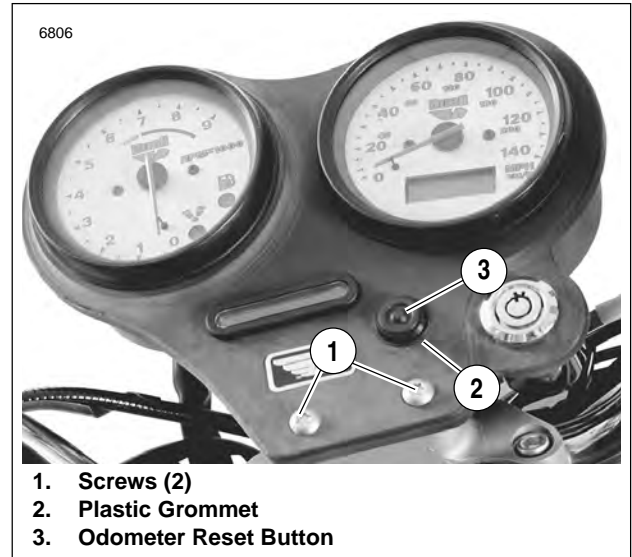
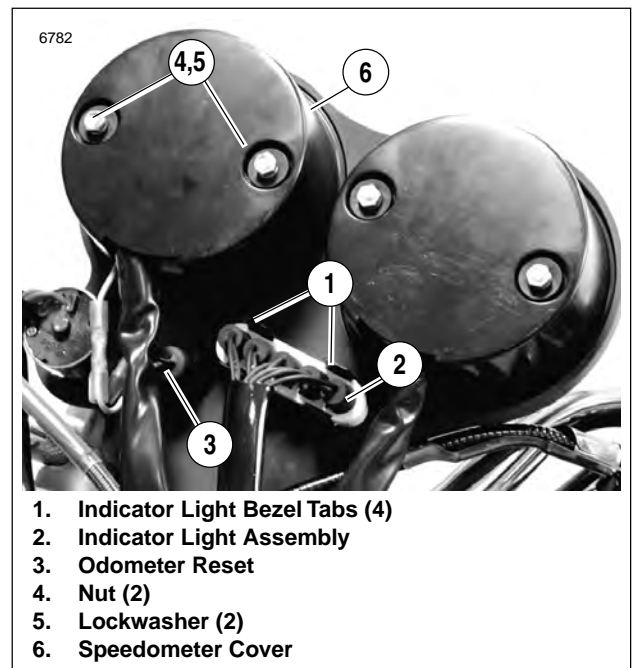

Figure 7-57. Dash Panel (Front)
Figure 7-58. Dash Panel (Back)
- See Figure 7-57. Pry off plastic grommet (2) from front of odometer reset button (3).
- See Figure 7-58. Remove odometer reset button (3) from back side of dash panel.
- See Figure 7-57. Detach instrument support dash panel by removing two screws holding panel to instrument support clamp. Pull dash panel upward, but do not damage wiring.
- See Figure 7-58. Remove two nuts (metric) (4) and lockwashers (5) from speedometer cover (6).
- d. See Figure 7-58. Install odometer reset button (3) from back side of dash panel.
- e. See Figure 7-57. Secure odometer reset button (3) on front of dash panel with plastic grommet (2).
5. See Figure 7-58. Install speedometer cover (6).
- b. Apply LOCTITE THREADLOCKER 243 (blue) to both nuts (metric) (4).
- c. Fasten cover (6) to speedometer using two nuts (metric) (4) and lockwashers (5).
6. See Figure 7-57. Position dash panel on instrument support clamp.
- a. Attach dash panel using two screws (1) to hold panel to clamp.